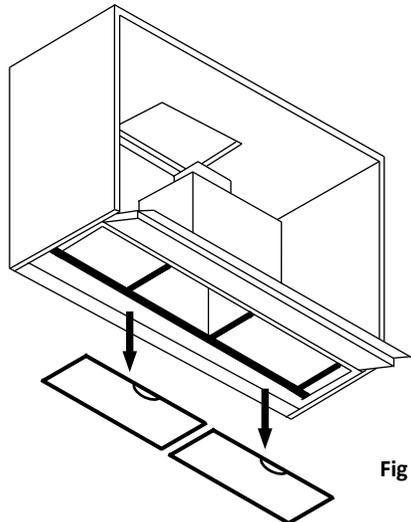

Fig 8
6. Remove the grease filters (Fig 8).